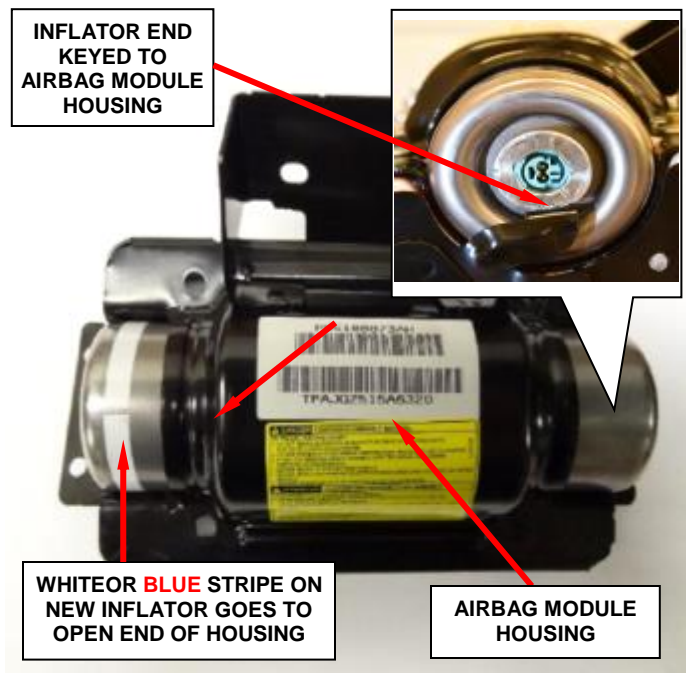

Figure 48 – Install New Inflator to Housing
NOTE: The inflator’s key MUST line up with the housing’s key (Figure 48).
- 1. Slide the **NEW** inflator into the passenger airbag module housing. The keyed end is inserted first; therefore, the white stripe on the **NEW** inflator will be located at the open end (Figure 48).